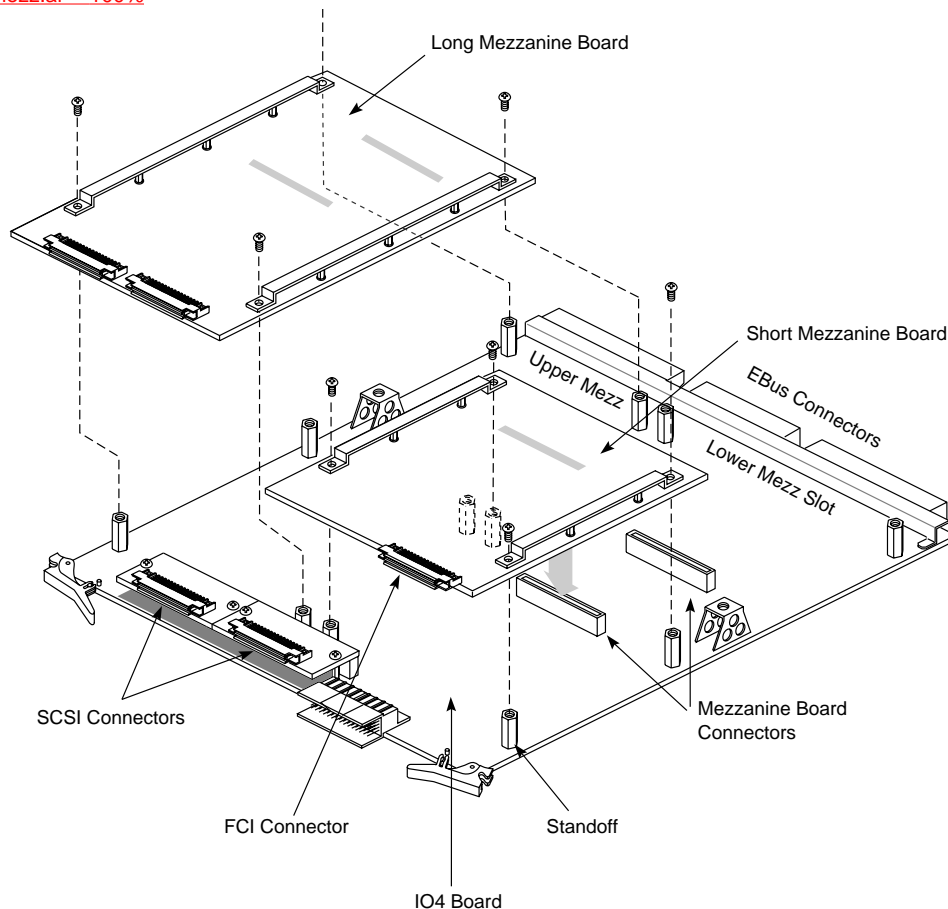

Figure 2-3 IO4 Board with Mezzanine Boards
2. Lay the board on a flat antistatic surface so that the component side faces up and the SCSI connectors face toward you, as illustrated in Figure 2-3.
3. Locate the selected mezzanine slot (upper or lower) and remove the four screws from the standoffs, as illustrated in Figure 2-3. If the screws are missing, this is not a problem.
5. Position the mezzanine board onto the selected slot so that the connector on the bottom of the mezzanine board matches the mezzanine board receptacle on the IO4 board and the standoffs match the board's holes. Figure 2-3 illustrates the correct positioning for the upper and lower slots.